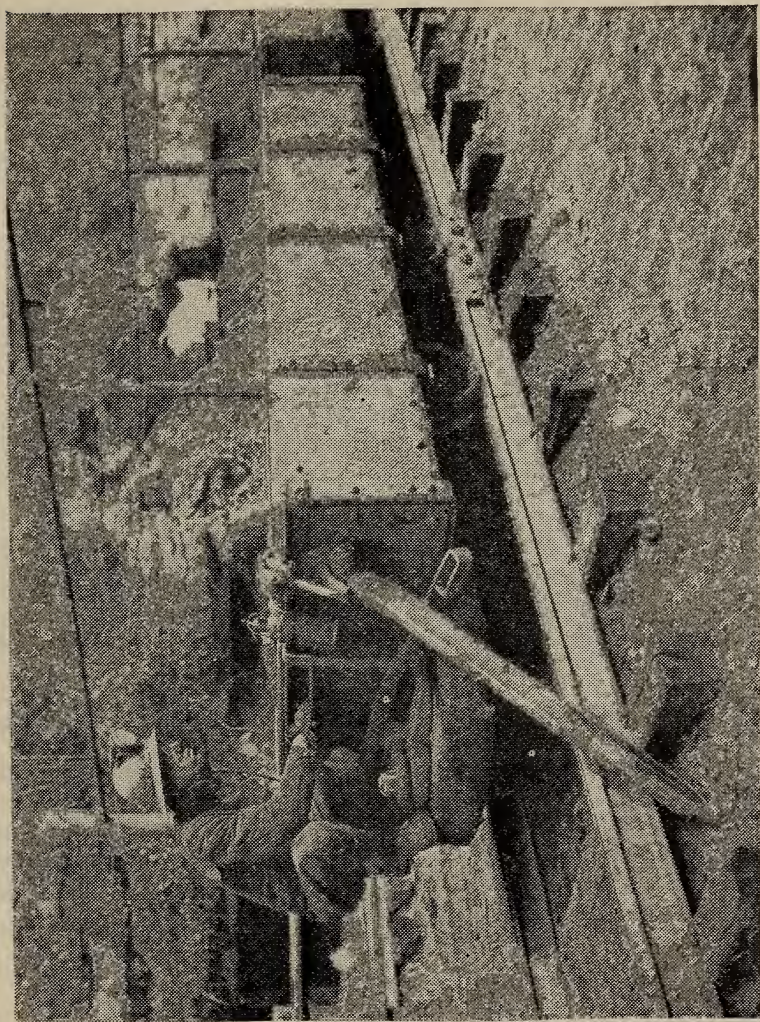

FIGURE 20.—An effective drag should be used on trips that are hauled on grades.
A. When they will stop a standard trip, traveling at a standard rate of speed, within a distance of 100 feet on any grade throughout the road on which the locomotive is required to travel. (See fig. 20.)